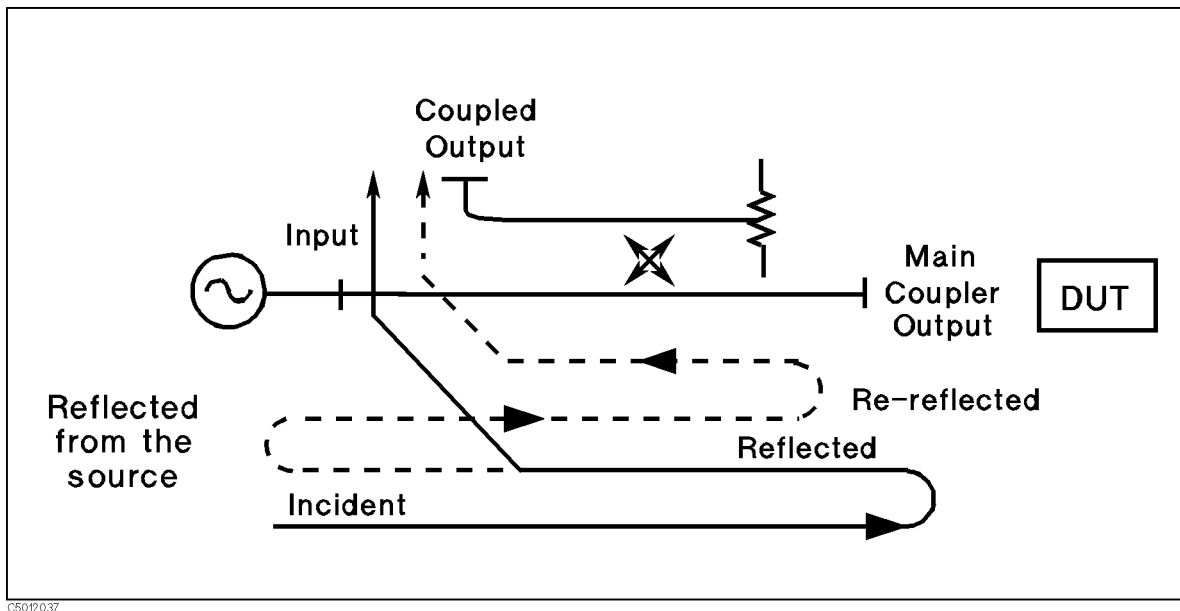

Figure A-24. Source Match
- In a reflection measurement, the source match error signal is caused by some of the reflected signal from the DUT being reflected from the source back toward the DUT and re-reflected from the DUT (Figure A-24).